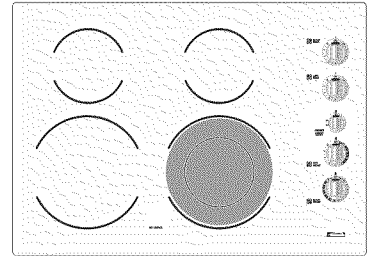
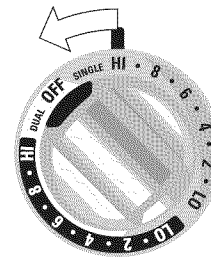

Figure 1
Figure 2
The cooktop is equipped with a dual radiant surface element located at the right front (See Figure 1) position. The unit control knob has a dual set of graduations. For small utensils use the right side of the control knob (Figure 2); for larger utensils the left (Figure 3). Only the inner surface of the unit heats when using it for small utensils; the whole surface heats for large utensils. You may switch between settings at any time during cooking.
2. Push in and turn the control knob counterclockwise (See Figure 2) for smaller cookware or clockwise (See Figure 3) for larger cookware.